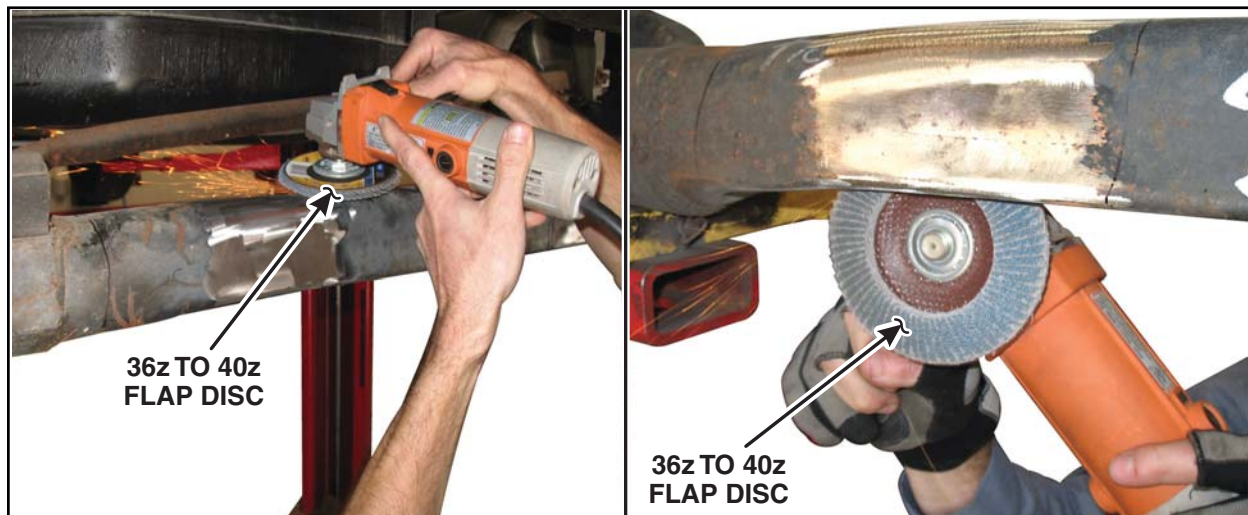

**FIGURE 3**
6. Using a hammer, dry fit both sets of axle reinforcement brackets 13 mm (1/2 in) from the top of the axle weld. Using a paint pen or marker, outline the outer edges of the axle reinforcement brackets. See Figure 3.